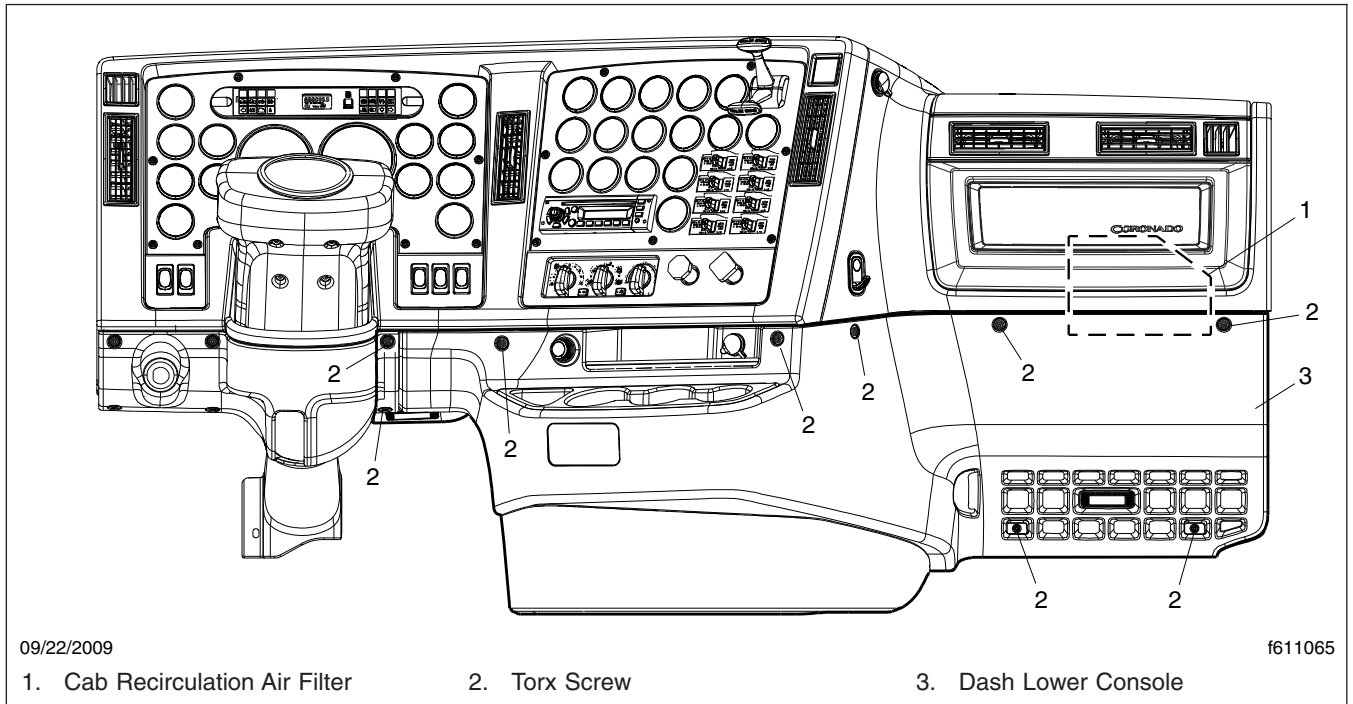

Fig. 3, Cab Recirculation Air Filter Location
The cab recirculation air filter must be replaced every six months, regardless of mileage, to permit proper operation of the HVAC system. The filter can be accessed by removing the dash lower console. See Fig. 3.
2. Remove the dash lower console. The lower console is secured by nine Torx screws; see Fig. 3.
7. Install the dash lower console. Tighten the Torx screws 24 to 30 lbf·in (270 to 340 N·cm). See Fig. 3.